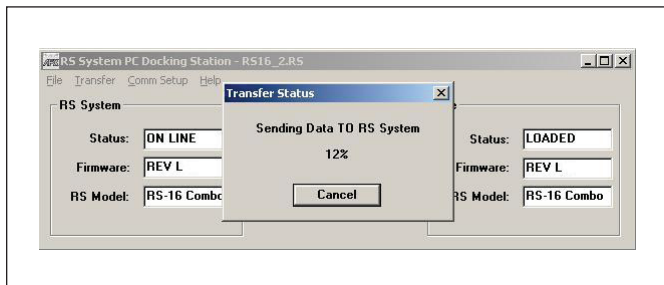

Figure 11. Data Transfer from Selected File to Power Center PCB
- To transfer the setup data from the selected file to the Power Center PCB, click **To RS System**. The setup data will take approximately 30 seconds to load. The Transfer Status dialog box opens during the data transfer (see Figure 11).